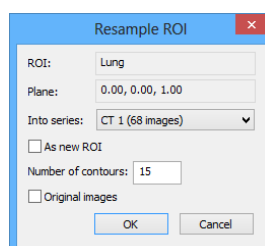

Figure 235 – Resample ROI dialog
2. Select the ROI to be resampled in the ROI list and click the **Resample...** button. The **Resample...** dialog is then displayed (see Figure 235).